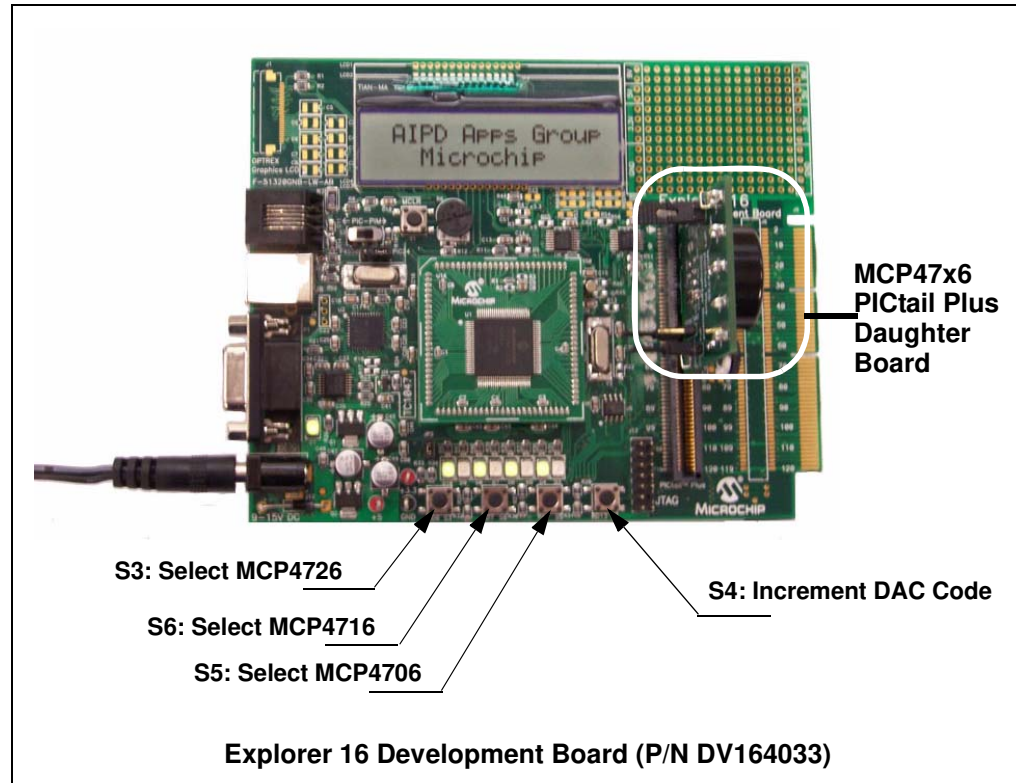

FIGURE 1-2: Connecting the MCP47X6 PICtail™ Plus Daughter Board to the Explorer 16 Development Board.
- **Step 1:** Insert the MCP47X6 PICtail™ Plus Daughter Board to the Explorer 16 Development Board. Figure 1-2 shows the configuration when the board is connected to the Explorer 16 Development Board.
1. Connect the MCP47X6 PICtail™ Plus Daughter Board to the J5 socket on the Explorer 16 Development Board as shown in Figure 1-2.